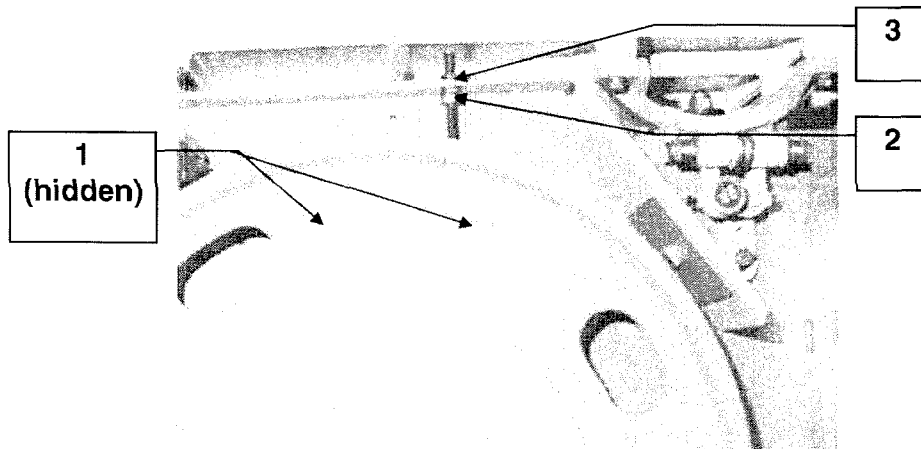

Figure 7.3.1
7.3.1 Re-tension Electric Motor Drive Belt (Figure 7.3.1)